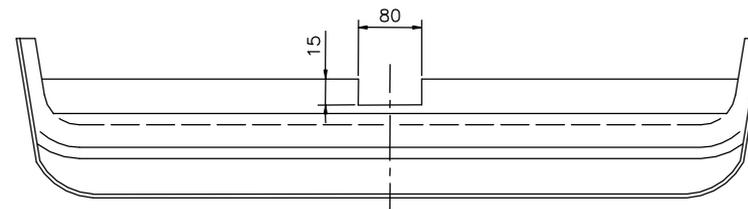

Fig. 2 Bumper cut out
2. In bottom part of the bumper cut out fragment according to figure 2.
3. On protruding pins in rear wall of car body put left handle (pos. 7) on the left side and right handle (pos. 6) on the right side and fix using original nuts M8 from metal reinforcement disassembly and per one bolt M10x35mm (pos. 13) from accessories (fix loosely).
4. With in this way prepared elements fix side brackets (pos. 4 and 5) and main bar of the towing hitch pos. 1 using bolts M12x40mm (pos. 12) – see drawing.
6. Inside the trunk put fish-plates (pos. 8 and 9) in this way, so holes of the fish-plates agree with holes drilled before and fix loosely using bolts M10x35mm (pos. 13).
7. Through holes pos. B of fish-plates drill straight through holes $\phi 11$ mm and next fix with rectangular washer (pos. 10) by bolts M10x35mm (pos. 13).
9. Fix body of the automat (pos. 21) and the socket plate (pos. 3) using bolts M12x25mm (pos. 11) from accessories. Place tow-ball (pos. 2) according to supplied instruction.